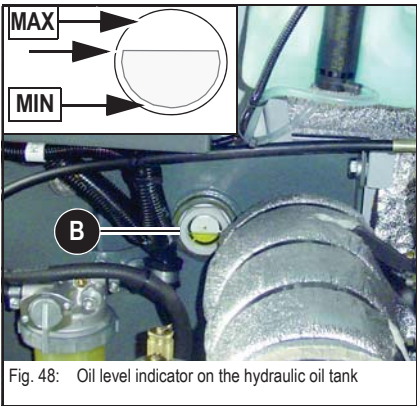

Fig. 48: Oil level indicator on the hydraulic oil tank
- The oil level must be about 1 cm (0.39") over the centre, between positions **MIN** and **MAX**, as shown by the arrows in fig. 48.